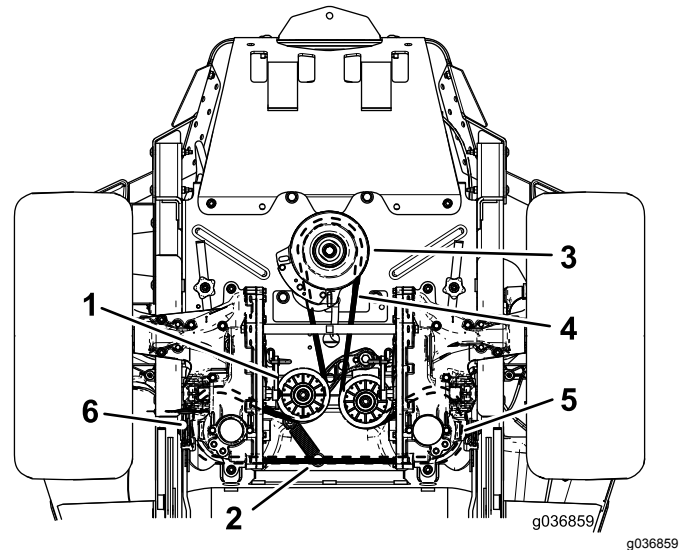

Figure 93
4. Raise the machine and support it with jack stands (Figure 93).
6. Remove the idler spring from the post (Figure 93).
8. Install the new belt around the engine pulley and the 2 hydraulic-pump pulleys (Figure 93).